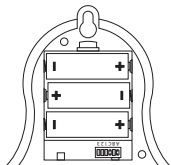

Figure 3
3. **Install 3 alkaline "AA" batteries.** Make sure batteries are oriented properly (see Figure 3).